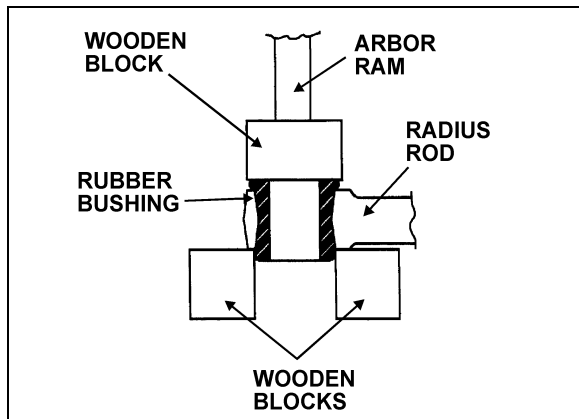

FIGURE 46: RADIUS ROD BUSHING INSTALLATION 16012
2. Safely support the radius rod, and place new bushing on top of the radius rod end (Fig. 46).
The measurement should be taken from underneath the upper air spring support on subframe to top of the lower air spring support on axle (refer to figure 46 for more details). If adjustment is required, begin with the drive axle.
The measurement should be taken from underneath the upper air spring support on subframe to top of the lower air spring support on axle (refer to figure 46 for more details).